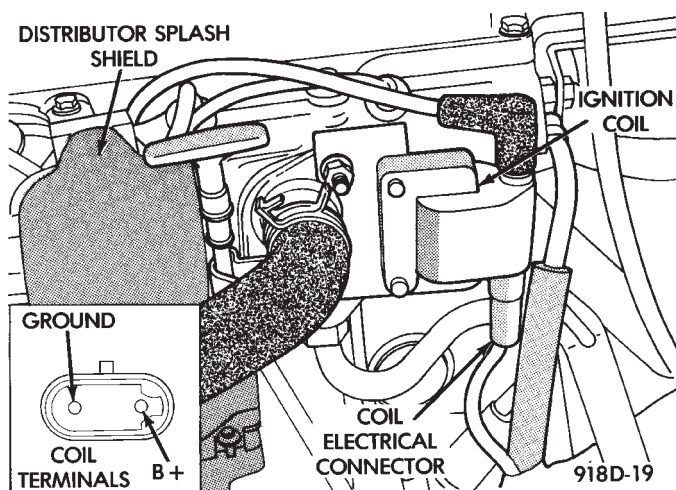

Fig. 2 Ignition Coil Electrical Connection
- (1) Check Ignition Coil Electrical Connections (Fig. 2).